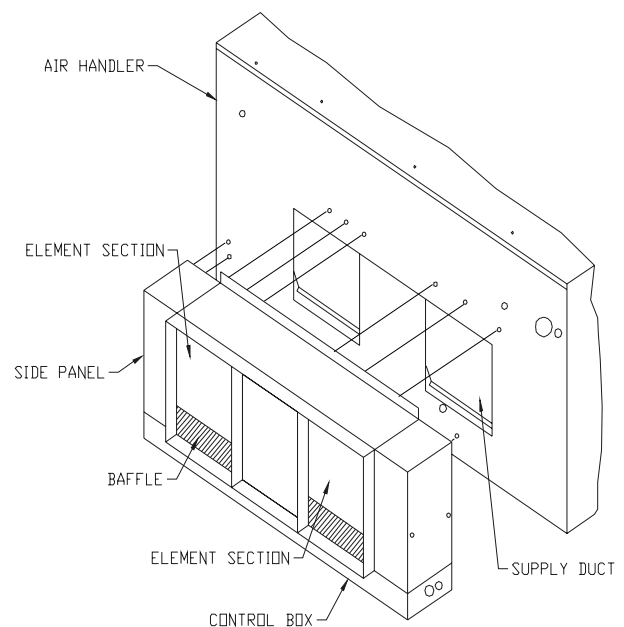

Fig. 1
3. Install heater assembly directly over the supply ducts of the air handler. Position the heater control box facing the front of the air handler (see fig. 1).
5. Secure heater flanges with sheetmetal screws to the air handler unit (see fig.1).